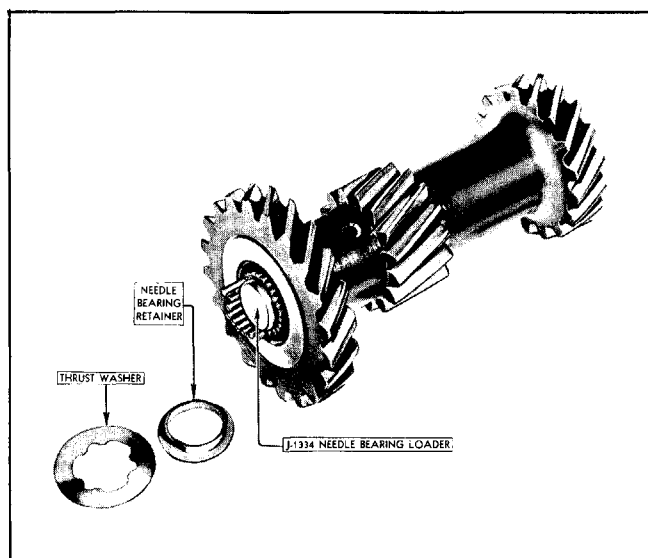

Fig. 7-35 Installing Bearings in Countergear
d. Install 25 bearing rollers in each end of countergear (Fig. 7-35).